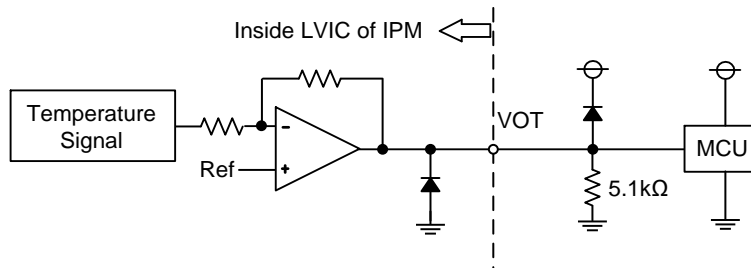

Figure 3. VOT Output Circuit
- (1) VOT generates the analog voltage that is converted from temperature detected in LVIC.
- (2) VOT signal is generated regardless of pull-down resistor (recommended 5.1kΩ) as shown in Figure 3. Note OT function is disabled by the pull-down resistor connection as described in table above.
- (3) The output voltage of VOT can reach up to 5V. Therefore, when connecting VOT to MCU powered with 3.3V, VOT output could exceed MCU supply voltage as temperature rises excessively. To prevent VOT exceeding MCU supply voltage, it is recommended to add a clamp diode between control supply of the controller and VOT output for preventing over voltage destruction.
- (4) In case not to use VOT, leave VOT output with non-connection.